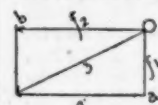

Fig. 32.
15. **MOTION** is change of place, or of position in space, and refers in mechanics to that only which is produced by the action of an external force upon a body. The laws regulating the motion of bodies, called the "laws of motion," are usually stated as follows: 1. If a body be at rest it will remain at rest, or if in motion it will move continually in a straight line and with a uniform velocity, if in either state it is not acted on by external force. 2. If any number of forces act at the same instant upon a body in motion, each force produces the same velocity in the direction of its action, just as if each had acted alone upon the body at rest. By virtue of this law is established the *composition of velocities*; i. e., velocities can be compounded by the same laws as statical forces or pressures. Thus, in Figure 32, a body moving in the direction of *o a*, with a velocity which would bring it to point *a*, a distance of one foot or one furlong in a second of time, and at the same time moving in the direction *o b*, with a velocity which would bring it to point *b*, a distance of two feet or two furlongs in a second, the effect of both velocities acting conjointly is to bring the body at the end of one second to the extremity of the diagonal *o z*, found by completing the parallelogram. This identity of laws of composition of velocities and of forces or pressures is but natural, as velocity and pressure are only different kinds of effects produced by force; hence all the results of *statics* may be transferred to *dynamics*³ by substituting velocities for pressures. 3. Law of motion: action and reaction are equal and contrary, the angle of reflection being equal to the angle of incidence, either perpendicular or oblique. There is a motion of *translation*, of *rotation*, of *vibration*, and each of them may be a *uniform* or *varied*, *accelerated* or *retarded* motion.
16. **VELOCITY** is the rate of speed of the motion with which a body passes over a unit of distance in a unit of time, and does not take into account the weight or other property of the moving body: (1) Velocities are directly proportional to the forces acting. (2) The acquired velocities are inversely proportional to the masses of the bodies. (3) The moving forces are proportional to the masses. (4) The velocity of gravitation is dependent upon vertical height of space passed through, and is not influenced by the *form* of path traversed in any oblique direction in free space. (5) With equal masses the velocities are proportional to their forces. (6) With equal forces the velocities are inversely as the masses. (7) With equal velocities the forces are proportional to the masses.